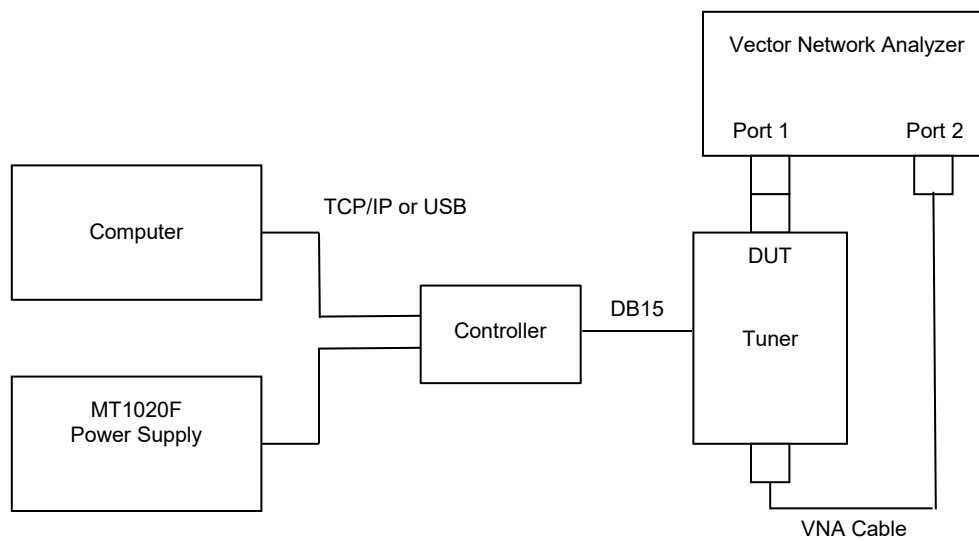

Figure 3. Two Port Test Configuration
2. Using a fixed termination per Table 2, connect the equipment as shown in Figure 3.